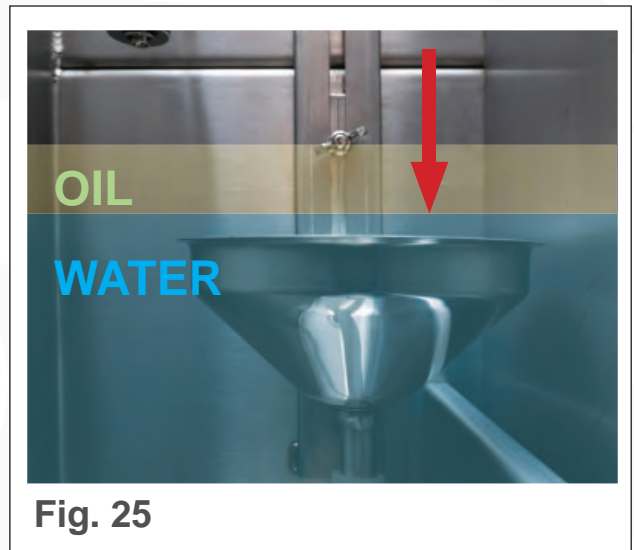

Fig. 25
2. Adjust the oil funnel to be slightly below the level of the oil (see Fig. 25).